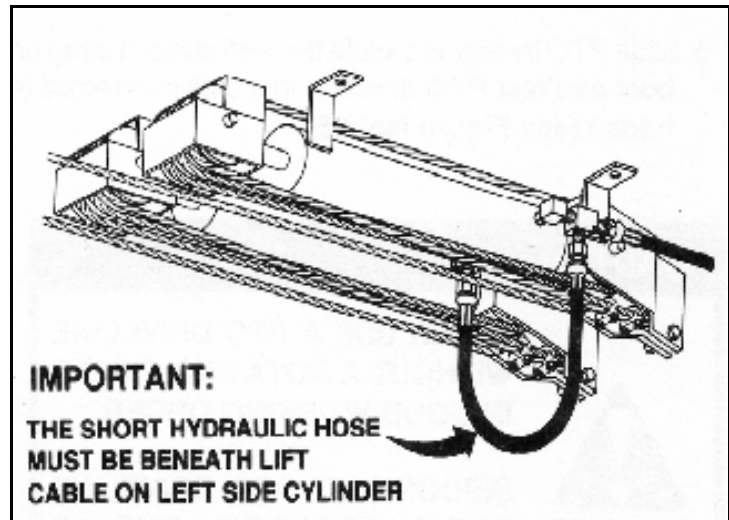

Figure 3.26
2. Securely attach the swivel connector end of the short hydraulic hose to tee fitting on left side cylinder (Figure 3.20). Make sure that this short hose is **beneath** the lift cable on left side lift cylinder (Figure 3.26).
**Note:** *Before attaching short connector hydraulic hose to left side lift cylinder, make certain lift cables are tightly stretched and that this hose is positioned beneath lift cable on left side lift cylinder (Figure 3.26). If lift cable is not installed above this hose, it could result in the hose wearing through during operation, causing a hazardous condition.*
- Securely attach the long hydraulic hose to tee fitting (Figure 3.26). Place this hose into brackets welded to side of auger tube and boot. Bend tops of these brackets over slightly to hold hose in place.